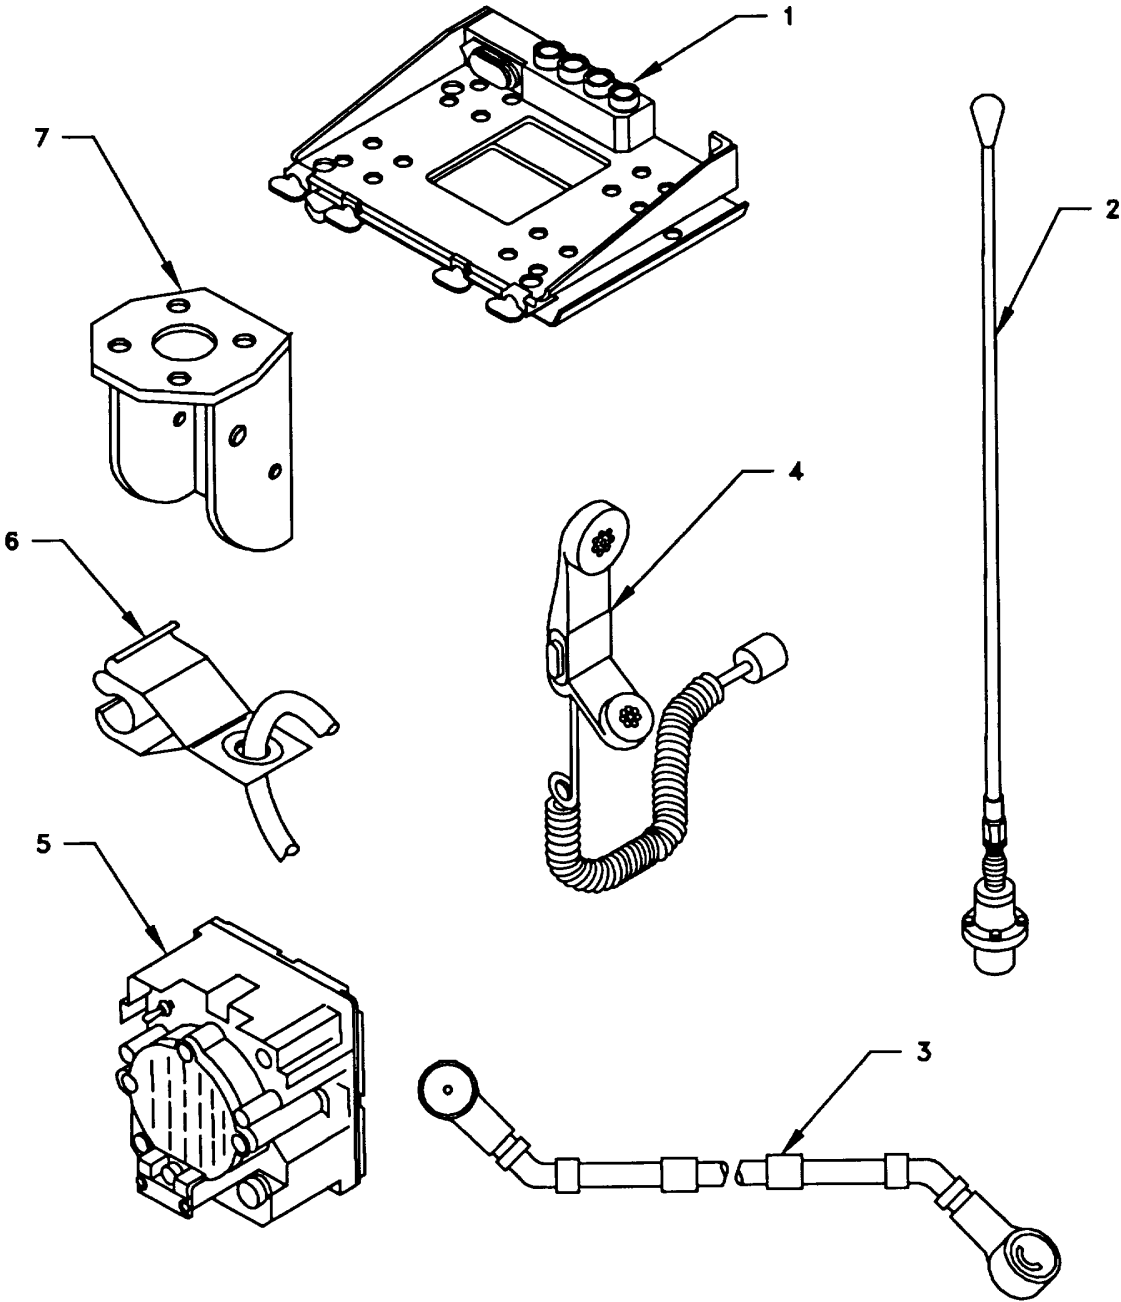

Figure 4-1. MK Illustrated Parts List
**4.3.1 Items Supplied In MK and/or Required for Installation.** Use Table 4-1 and Figure 4-1 to identify and Inventory MK parts.